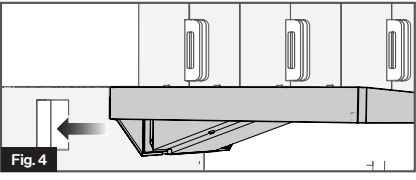

Fig. 4
- Insert vent collar at back of the range hood into the cutout area (Fig 4) and fix the range hood onto the top cabinet with four #8 type wood screws (not provided). Ensure the length of the screw has adequate engagement into the above cabinet. (Fig 5)